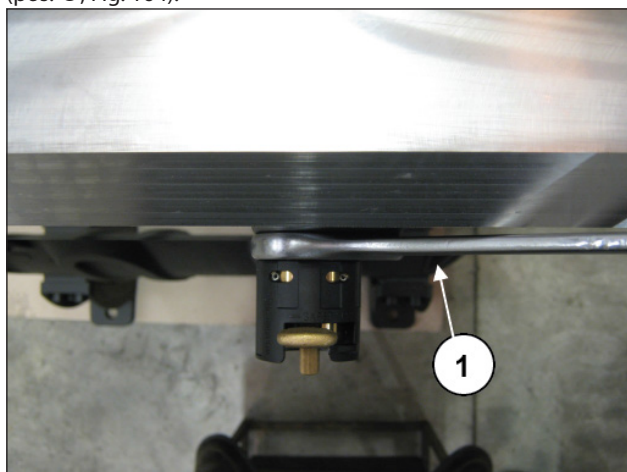

Fig. 164
Unscrew the valve opening device using a 30 mm wrench (pos. ①, Fig. 164).